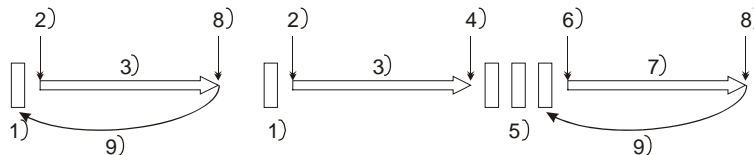

Figure 6-1
- Figure 6-1 shows the relationship between the play and back cue operations.